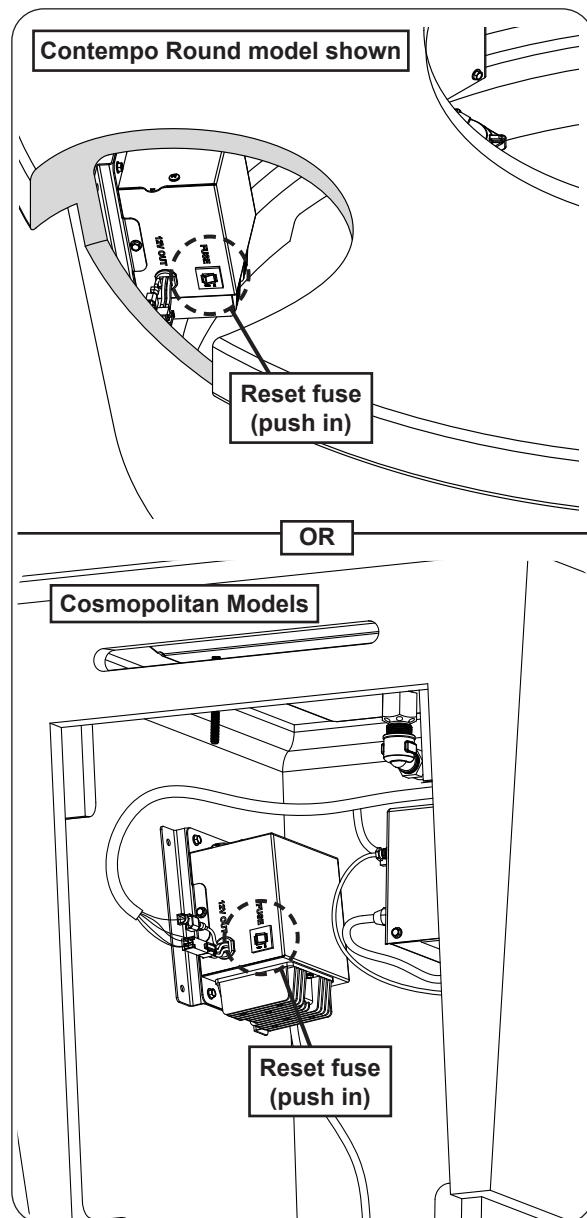

Fig. 55-2 Reset fuse
2. Gain access to the valve box and reset the fuse by pushing it in (see Fig. 55-2).